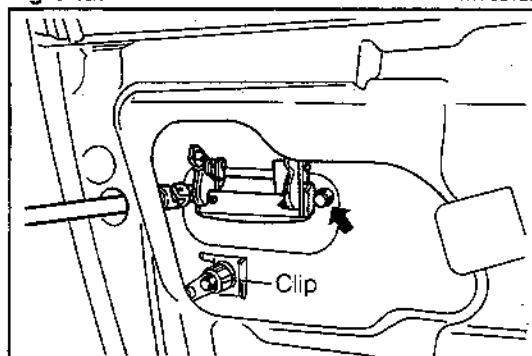

Fig. 9-128
1. Install the front door outside handle assembly with the two bolts. (See Fig. 9-128.)
2. Install the key cylinder into position with the clip. (See Fig. 9-128.)